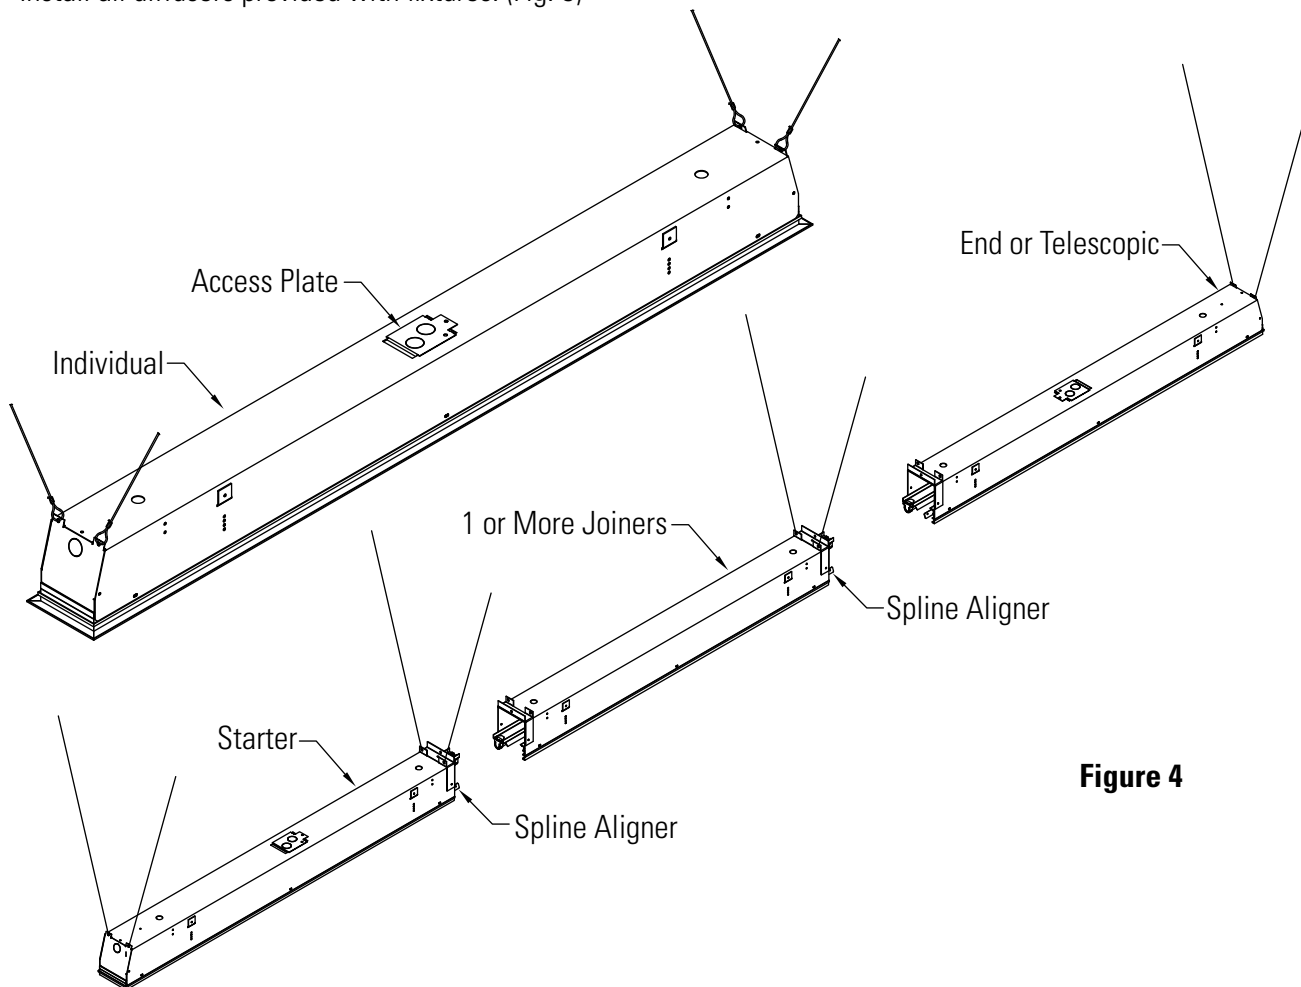

Figure 4
- B. Remove access-plate on top of fixture to gain access to splice compartment, remove a 7/8" knockout from access-plate and pull necessary wires out of fixture. (Fig. 4)
- C. Provide power to fixture per NEC & local codes and re-install access-plate. (Fig. 4)
- E. Remove access-plate on top of starter fixture to gain access to splice compartment, remove a 7/8" knockout from access-plate and pull necessary wires out of fixture. (Fig. 4)
- F. Provide power to fixture per NEC & local code and re-install access-plate. (Fig. 4)